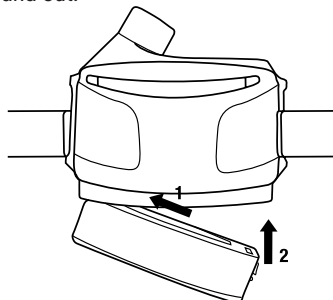

Fig. 4 Installing battery onto motor/blower
To install a charged battery pack, hold the unit so the filter cover faces you (Fig. 4).
3. Hook the hinge end of the battery pack into its holder on the bottom of the unit (Fig. 4, step 1).
4. Push the latch side of the battery pack into the motor/blower until the latch engages with an audible click (Fig. 4, step 2).